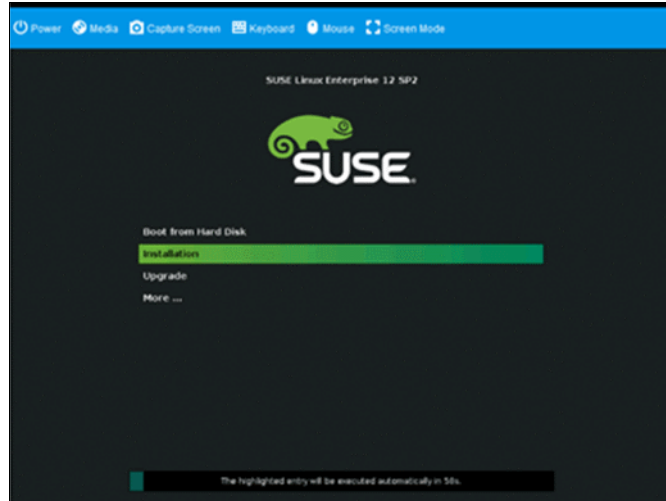

Figure 6-42 SUSE installation screen
8. Select **Automatic Install** and click through until the installation begins as shown in Figure 6-42 on page 207.